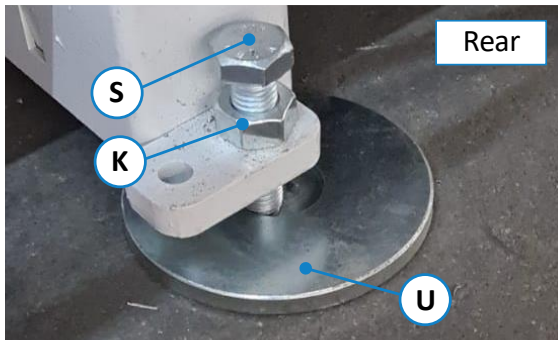
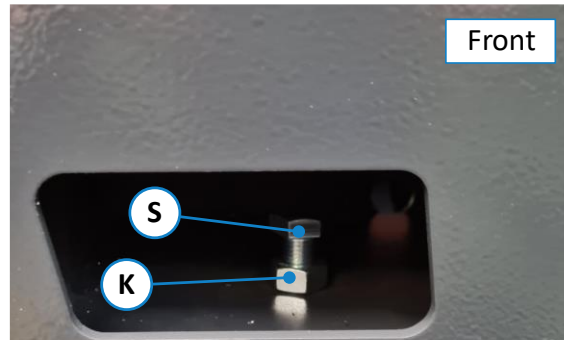

Figure 11: Levelling screws at the rear (normal case)
Figure 12: Front levelling screws (exceptional case)
When setting up the machine, it must be properly aligned with a machine spirit level (0.1 mm/ 1 m). For this purpose, the machine has two adjustable feet with corresponding set screws (**S**) on the rear side (⇒ Figure 11) and two round plates (**U**) as a base. In the **normal case**, the front of the machine stands flush on the two pedestals. Level here only in **exceptional cases** (very uneven floors).
1. Before setting the machine down, lower it only close enough to the ground so that the two plate feet (**U**) shown in ⇒ Figure 11 can be placed centred under the screws (**S**).
2. Only in this exceptional case are the front adjusting screws (see ⇒ Figure 12) necessary for levelling. However, these are only accessible after the front cover plate is removed.
4. Then loosen the four lock nuts (**K**) shown in ⇒ Figure 12 and ⇒ Figure 11 and adjust the height on all four screws (**S**) until the machine is evenly level.